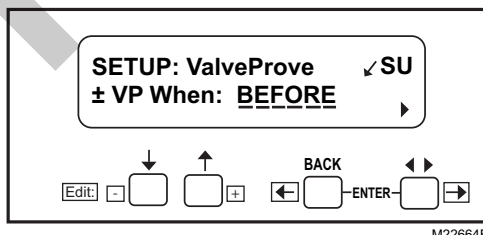

Fig. 12. SETUP: Valve Prove screen.
12. "Getting Data" will be momentarily displayed, followed by the screen shown in Fig. 12.